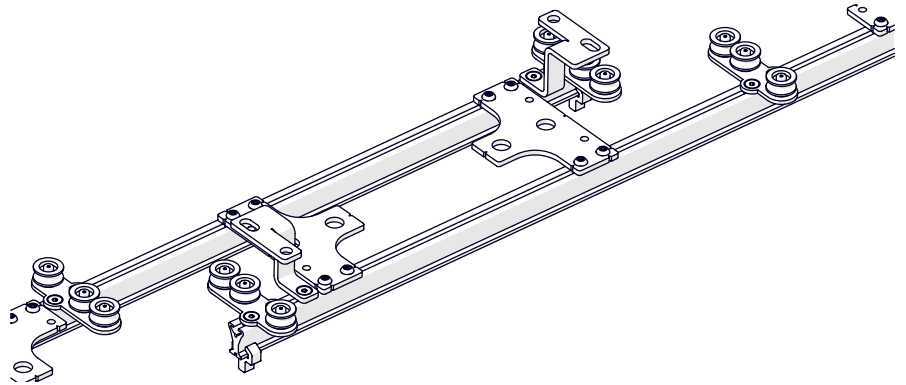

Fig. 85: Variant ② – Top cord operation – Double track system
1. Mount additional cord guides to guide the cord onto the second track run (see Fig. 85).